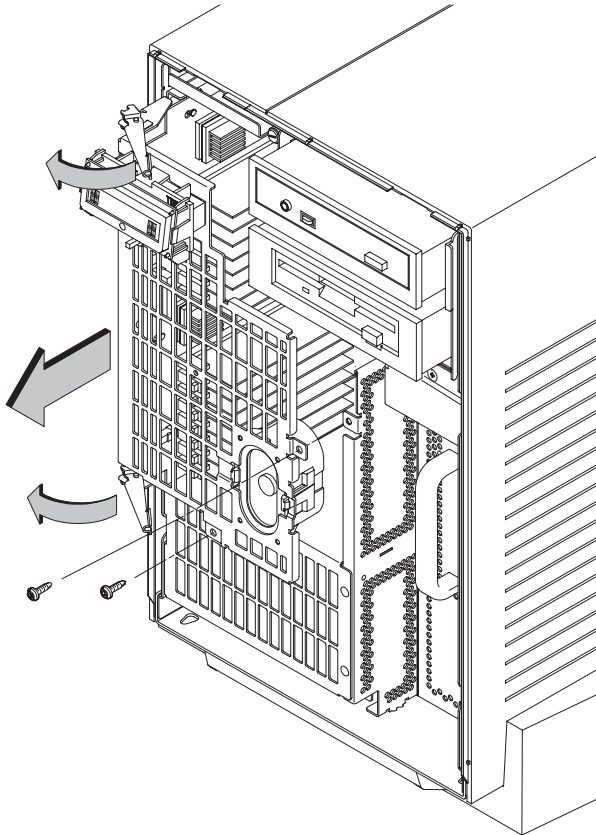

Figure 5–10. Removing the CPU Assembly
2. Pull the ejector latches on the left side, top and bottom of the CPU Assembly to release the assembly from the internal connectors. See Figure 5–10.